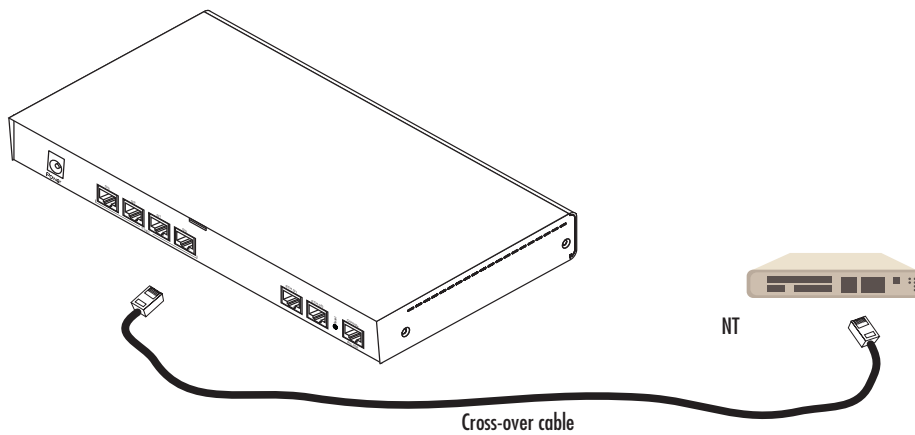

Figure 13. Connecting an E1 PRI port to an NT1
The E1 PRI is usually connected to a PBX or switch—local exchange (LE). Type and pin outs of these devices vary depending on the manufacturer. In most cases, a straight-through RJ-45 to RJ-45 can be used to connect the PRI with a PBX. A cross-over cable is required to connect to an NT device, as illustrated in figure 13 on page 51.